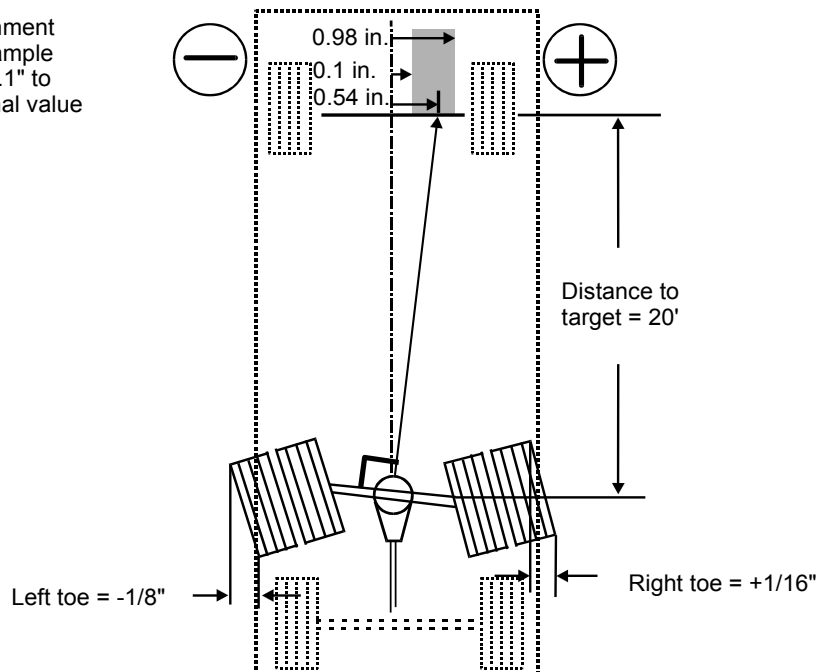

FIGURE 9: EXAMPLE CALCULATION
4. Align the off-tracking of the differential within the tolerances (Fig. 9).